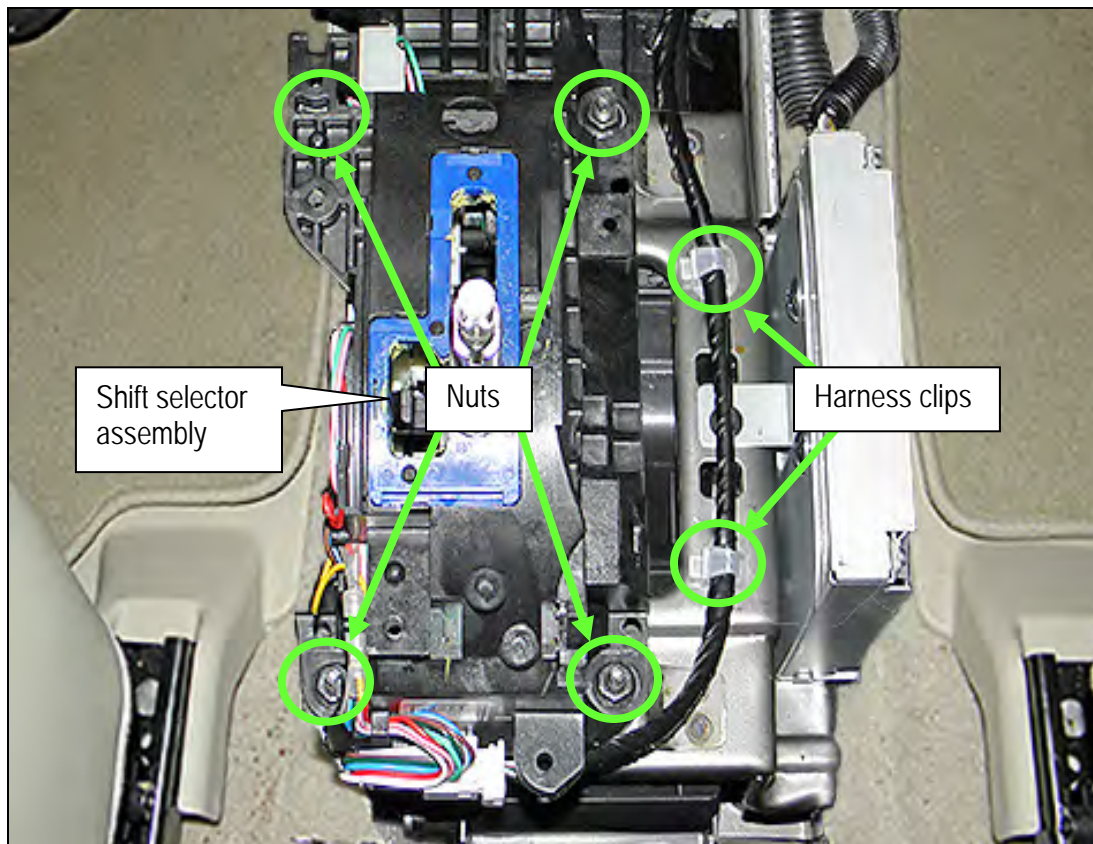

Figure 34B
16. Remove the four nuts that attach the shift selector assembly to the center console brace (Figure 34B).
NOTE: Top left nut is hidden in Figure 34B.